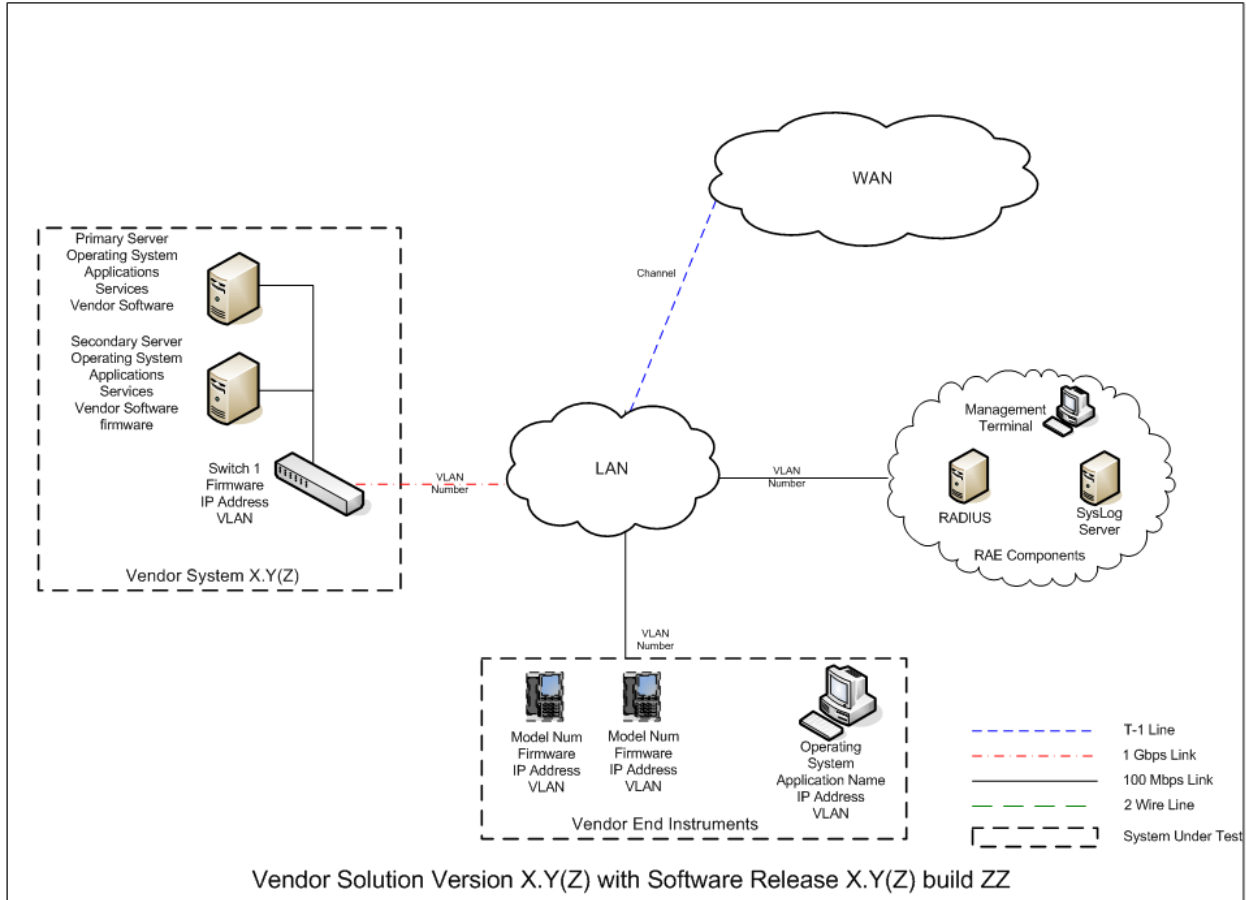

Figure 2.1 – Sample Diagram for Submission
FIGURE 2.1 – SAMPLE DIAGRAM FOR SUBMISSION.....	2-3
All solution components that will be involved in the testing of the solution need to be clearly identified in the solution’s product documentation. If there are components needed to provide proof of functionality for the System Under Test (SUT), but not targeted for Interoperability (IO) and Information Assurance (IA) certification, these components need to be clearly identified and remain outside the test boundary. The test boundary should be clearly identified within the diagram using lines around the components of the SUT. The only solution components that are represented in the diagram as part of the SUT should be those components desired by the government sponsor of the solution. No optional solution components that are available for purchase not requested by the government sponsor should be included in the SUT diagram submitted to the UCCO. See Figure 2.1 as example of an acceptable solution diagram.